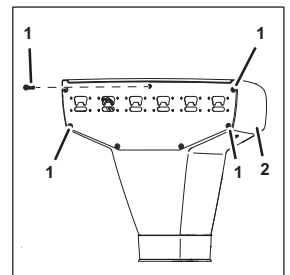

Fig. 49
1. Remove the fastening bolts (Fig. 49/1) of the front panel (Fig. 49/2).
8. Attach the front panel (Fig. 49/2) using the fastening bolts (Fig. 49/1).